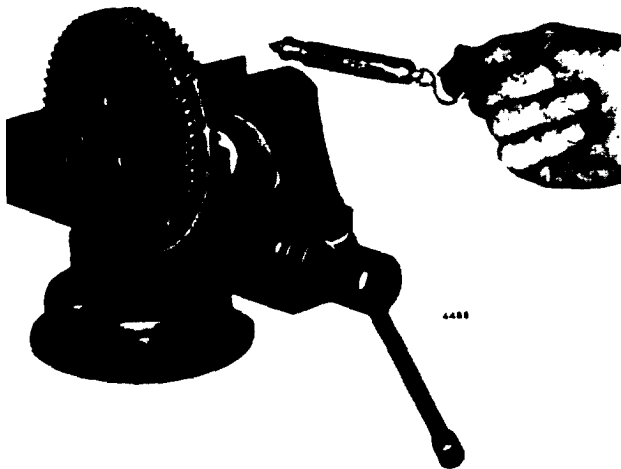

Figure 11B-167. Check Pre-Load of Idler Gear Bearing
1. Position the crankshaft gear and either the balance shaft or camshaft gear (depending upon engine rotation) so that the timing marks will align with those on the idler gear (see Figure 11B-144 on page 11B-93).